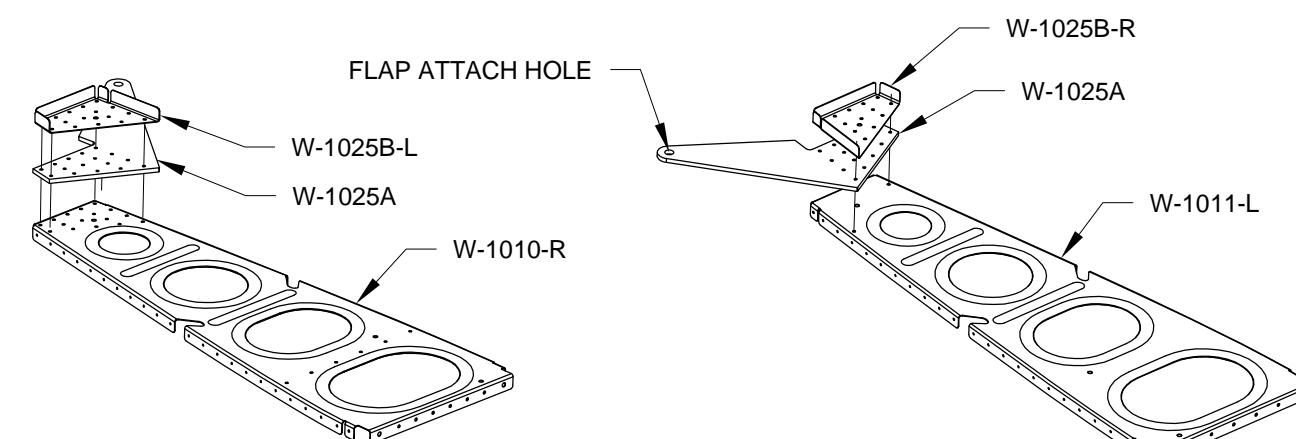

FIGURE 7: INBOARD FLAP HINGE ASSEMBLY
Step 9: Cleco the W-1025B-L Flap Hinge Rib and W-1025A Flap Hinge Bracket to the W-1010-R Inboard Wing Rib as shown in Figure 7. Final-Drill all common attach holes in the assembly to #30.